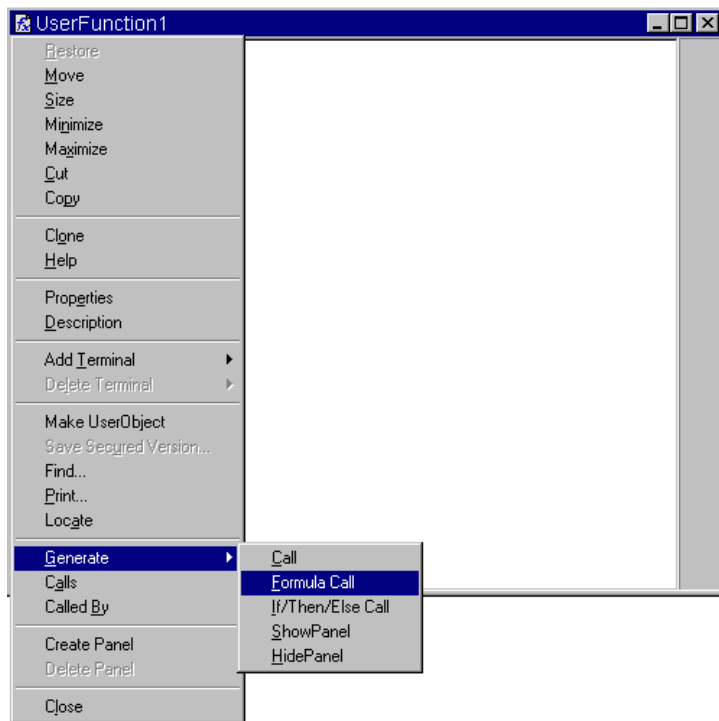

Figure 8-7. The Generate Menu in a UserFunction
2. In the `UserFunction` `ArrayStats`, select the object menu and select `Generate` ⇒ `Formula Call`. Figure 8-7 shows the `Generate` menu in a `UserFunction` object menu.